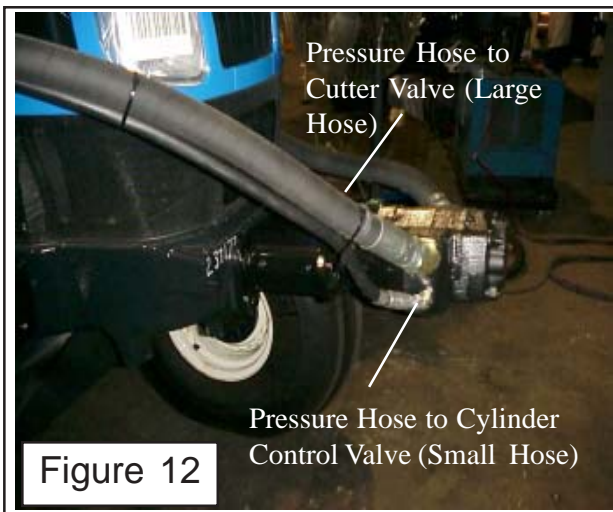

Figure 12
1. Install Pump Hoses. The Pump hoses are connected to the cutter valve, the cylinder control valve and the hydraulic tank. The suction hose (LH side of pump will connect to the hose barb at the top of the hydraulic tank (See Figure 10 & 11). There are two hoses connected to the RH side of the pump, the pressure hose (top or larger hose at pump) goes to the cutter valve. The smaller or lower hose goes to the cylinder control valve as the pressure supply (See Figure 12 & 13). It is very important that these hoses do not get mixed up, damage will occur if hoses are connected wrong.